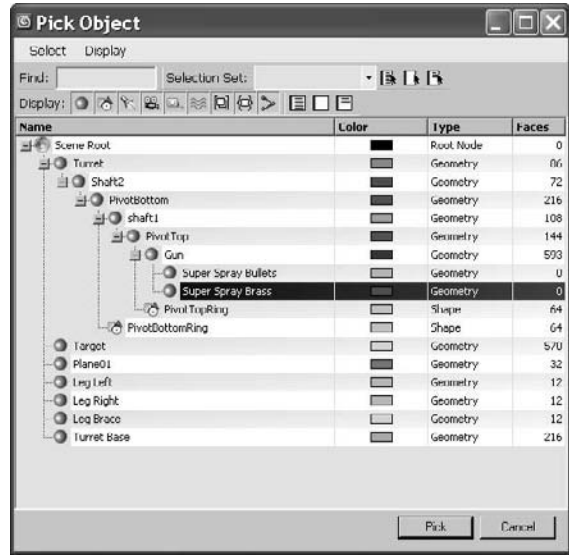

Figure 12.27
- Press the H key to open the Pick Object dialog box, select Super Spray Brass, and then click the Pick button (Figure 12.27).